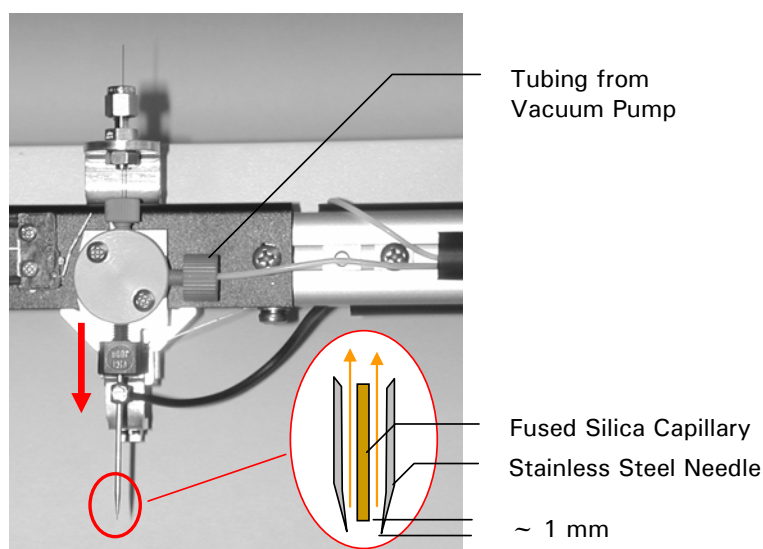

FIGURE D-1 The Needle in lower Position
FIGURE D-1 shows the stainless steel needle in the lower position (e.g. the lift magnet is not powered). The tip of the fused silica capillary is covered by the needle. The vacuum will draw the solvent into the waste container.
- c) Select the **NeedleDown** button and that the stainless steel needle covers the tip of the fused silica capillary (FIGURE D-1).